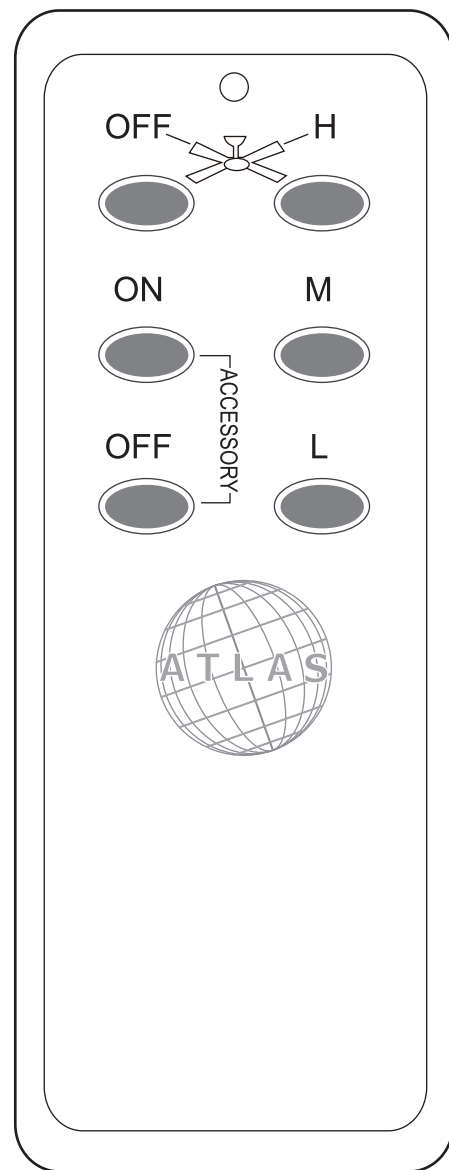

Figure 6
A.  **H, M, L** and **OFF** button: (Fig. 6)